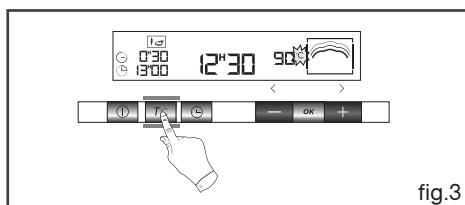

fig.3
• Grid (fig.3)
- Press the **°C** touch control until the “°C” symbol begins flashing (fig.3).